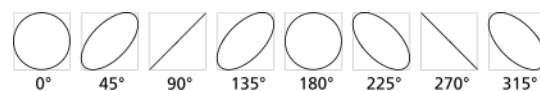

Figure 5.9: Phase (ellipticity)
**Phase (ellipticity) in  $^\circ$**  sets the drilling ellipticity, i.e. the phase between the sinusoidal and cosinusoidal rotary movement of the scan mirrors. A phase of  $0^\circ$  results in a circle. A phase  $>0^\circ$  and  $<90^\circ$  results in an ellipse where ellipticity grows with increasing phase angle. The long axis of this ellipse lies at  $45^\circ$  between the x- and y-axis. A phase of  $90^\circ$  results in a line which lies at  $45^\circ$  between the x- and y-axis. Figure 5.9 on page 83 illustrates this.